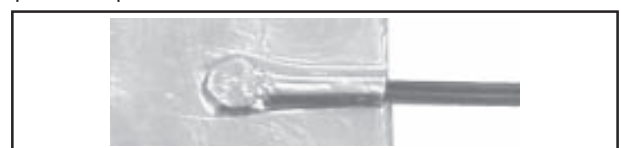

Fig. 6
- f) In some cases, the welding over the evaporating surface can cause damage or be difficult to perform in case the parent material is aluminum. To avoid this, the thermocouples can be fixed over the surface with an aluminum adhesive tape (fig. 6). Make sure the surface is clean so as to allow perfect tape adhesion.